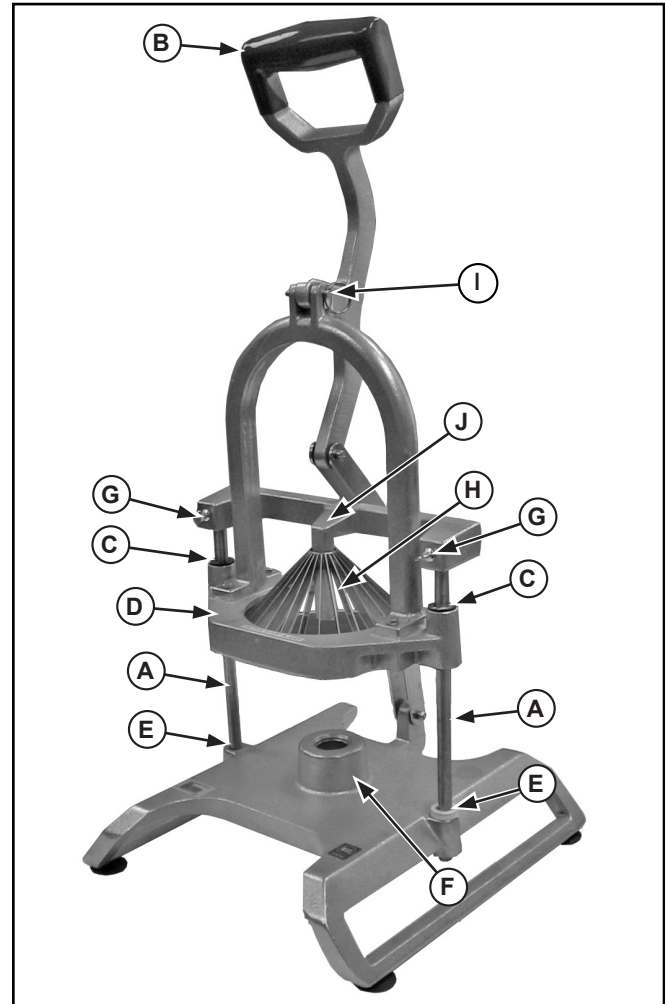

Figure 1. Features and Controls.
- Before each use, always check for proper blade alignment. Slowly set the pusher head (D) onto the blade assembly. See Figure 1. They should slide together with no obstructions. If there are obstructions, verify they are a matching set. Remove the obstruction.
- Lift the handle (B) put into the up position so the pusher head remains in the up position.
- Set the handle (B) and pusher head assembly (D) in the down position. See Figure 1.
- Remove and retain the locking pin (I).
- Move the handle (B) away from the pusher head assembly (D).
- Loosen the thumb screws (G) and remove the core pusher (J).
- Slide the pusher head assembly (D) off of the guide rods (A).
- Remove and retain the screws (T) and blade retainer (P). See Spare Parts Lists and Exploded View.
- To remove the blade assembly, remove screws (S) and blade retainer (R) from blade holder (P) and lift out.
1. Set the handle (B) and pusher head assembly (D) in the down position. See Figure 1.
2. Remove and retain the locking pin (I).
3. Move the handle (B) away from the pusher head assembly (D).
4. Loosen the thumb screws (G) and remove the core pusher (J).
5. Slide the pusher head assembly (D) off of the guide rods (A).
6. Remove and retain the screws (T). See Spare Parts Lists and Exploded View.
7. Remove and discard old blade assembly (U).
8. Place the new blade assembly (U) into the blade holder (O).
9. Secure the new blade assembly (U) to the blade holder (O) using the blade retainer (P) and the screws (T).
10. Set the blade holder (O) and lift bracket (M) onto the guide rods (J).
11. Set the core pusher (L) onto the guide rods (G). Tighten the thumb screws (D).